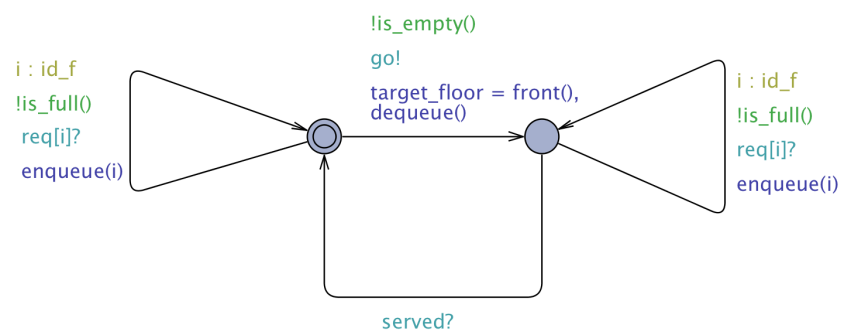

FIGURE 1.2 The FIFO request automaton
The dummy request handler can only deal with one request at a time. Figure 1.2 provides a model of a FIFO request handler. To understand its behavior, take a look at the "Declarations" of template "dummy_RequestHandler". It provides operations *enqueue* and *dequeue* to store requests into a queue. These operations can be called in the update part of a transition. An enqueue operation only makes sense when the queue is not full. Similarly, a dequeue operation can only happen when the queue is not empty.
- ▷ Replace the dummy request handler by the automaton in Figure 1.2.